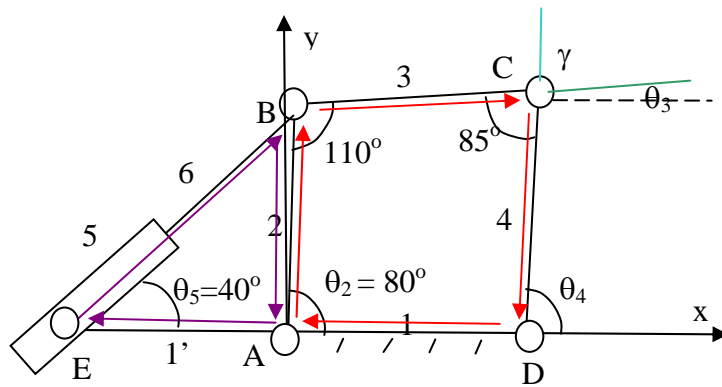

Figure 1: linkage stick diagram (Typical landing gear design)
- (1) (a) **1 DOF. (Degree-of-freedom)**
2. In Figure 1, the force from link 5 (actuator) is transferred to
- (1) (a) Link 4.
3. The linkage in Figure 1 is
- (1) (a) a 4 bar linkage with one loop.
4. Link 1 in the linkage shown in Figure 1 is
- (1) (a) a binary link.
5. For the linkage shown in Figure 1, the DOFs of all the links when free are
- (1) (a) **14. $2x7=14$**
7. In Figure 1, if link 6 is connected to the middle of link 3, then
- (1) (a) Watt II is changed to Stephenson II.
8. Refer to Figure 1, indicate all the links undergo rotation only.
9. Refer to Figure 1, indicate all the links undergo general motion.
10. Refer to Figure 1, if ω_2 of input link 2 is constant, then
11. Choose a set of correct absolute joint coordinates for the 4-bar linkage and **draw** these angles on Figure 1.
12. Choose a set of correct absolute joint coordinates for the slider-crank and **draw** these angles on Figure 1.
13. Choose a correct position loop equation for the 4 bar linkage and **draw** these vectors on Figure 1.
14. Choose a correct position loop equation for the crank-slider and **draw** these vectors on Figure 1.
19. Refer to Figure 1, for 15 lbf force applied on link 4 at point C, what would be the torque of the motor on joint A if $(\omega_4/\omega_2=1/2)$?
20. Choose a correct transmission angle of the 4 bar linkage and **draw** it on Figure 1.